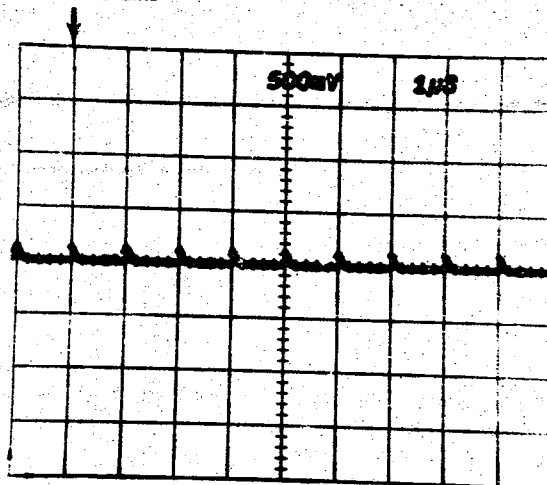

Fig. 7-5. 1 μ s/DIV.
c. Check that there is one marker per division and that the distance between the peak of each marker, from the first through the ninth markers, is less than 0.1 division from the major graticule line (see Fig. 7-5).
e. Check that there is one marker per division displayed (see Fig. 7-5), and that there are exactly 8 divisions between the number one and number nine markers.
a. Adjust R460 (see Fig. 7-3) so there is one marker per division (see Fig. 7-5).